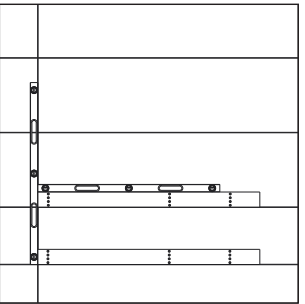

Figure 13: Repeat Stud Attachment Pattern
9. Repeat the stud attachment pattern from the bottom row. Refer to **Figure 13**. Verify the tube is horizontally level and the tubes are plumb and level to each other by a tolerance of ±1/4" in the X-axis and by +1/4"-1/2" in the Y-axis. Y-axis tolerance for the top tube is ±1/4" to prevent the tube from extending above the top of the display.